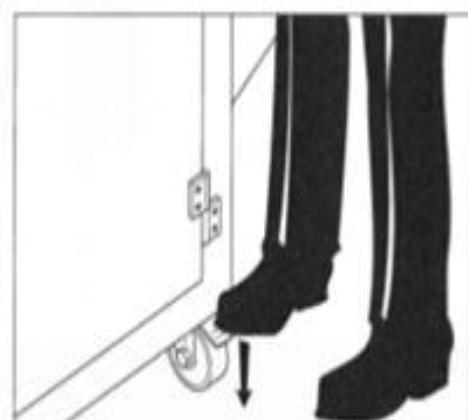

图 4.7 脚轮固定图
Figure 4.7 rolling casters fixing diagram
- 请务必把机器放置于平坦的地面上，并按图 4.7 要求，锁住脚刹。
Please be sure to place the machine on a flat floor and lock the foot brake as shown in figure 4.7.